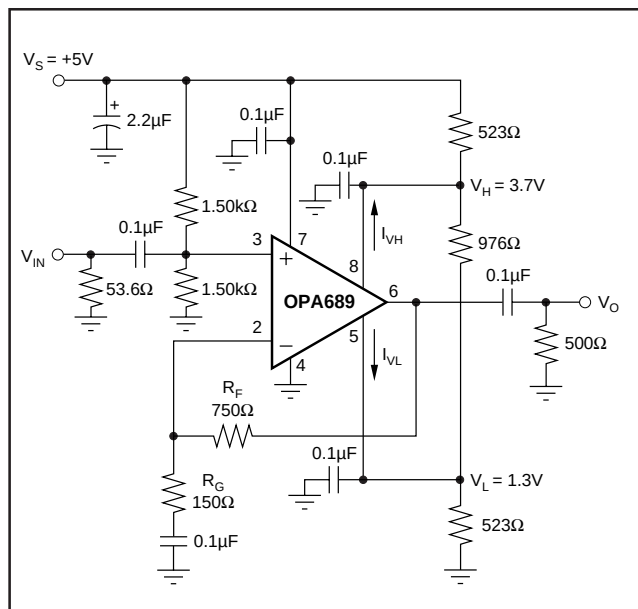

FIGURE 2. AC-Coupled, Single Supply Amplifier.
$G = +6$, $R_F = 750\Omega$, $R_L = 500\Omega$ tied to $V_{CM} = 2.5V$, $V_L = V_{CM} - 1.2V$, $V_H = V_{CM} + 1.2V$, (Figure 2 for AC performance only), unless otherwise noted.
NOTES: (1) Junction Temperature = Ambient Temperature for low temperature limit and 25°C guaranteed specifications. Junction Temperature = Ambient Temperature + 23°C at high temperature limit guaranteed specifications. (2) TEST LEVELS: (A) 100% tested at 25°C. Over temperature limits by characterization and simulation. (B) Limits set by characterization and simulation. (C) Typical value for information only. (3) Current is considered positive out of node. (4) CMIR tested as < 3dB degradation from minimum CMRR at specified limits. (5) I_{VH} (V_H bias current) is negative, and I_{VL} (V_L bias current) is positive, under these conditions. See Note 3 and Figures 2 and 7. (6) Limiter feedthrough is the ratio of the output magnitude to the sinewave added to V_H (or V_L) when $V_{IN} = 0$. (7) V_H slew rate conditions are: $V_{IN} = V_{CM} + 0.4V$, $G = +6$, $V_L = V_{CM} - 1.2V$, $V_H =$ step between $V_{CM} + 1.2V$ and V_{CM} . V_L slew rate conditions are similar. (8) Linearity Guardband is defined for an output sinusoid ($f = 5MHz$, $V_O = V_{CM} \pm 1V_{p-p}$) centered between the limiter levels (V_H and V_L). It is the difference between the limiter level and the peak output voltage where SFDR decreases by 3dB (see Figure 8).
$G = +6$, $R_F = 402\Omega$, $R_L = 500\Omega$ tied to $V_{CM} = 2.5V$, $V_L = V_{CM} - 1.2V$, $V_H = V_{CM} + 1.2V$, (Figure 2 for AC performance only), unless otherwise noted.
Figure 2 shows an AC coupled, non-inverting gain amplifier for single supply operation. This circuit was used for AC
The OPA689 is nominally specified for operation using either $\pm 5\text{V}$ supplies or a single $+5\text{V}$ supply. The maximum specified total supply voltage of 13V allows reasonable tolerances on the supplies. Higher supply voltages can break down internal junctions, possibly leading to catastrophic failure. Single supply operation is possible as long as common mode voltage constraints are observed. The common mode input and output voltage specifications can be interpreted as a required headroom to the supply voltage. Observing this input and output headroom requirement will allow design of non-standard or single supply operation circuits. Figure 2 shows one approach to single-supply operation.
When the limiter voltages need to be within 2.1V of the supplies ($V_L \leq -V_S + 2.1V$ or $V_H \geq +V_S - 2.1V$), use low impedance voltage sources to set V_H and V_L to minimize errors due to bias current uncertainty. This will typically be the case for single supply operation ($V_S = +5V$). Figure 2 runs 2.5mA through the resistive divider that sets V_H and V_L . This keeps errors due to I_{VH} and $I_{VL} < \pm 1\%$ of the target limit voltages.